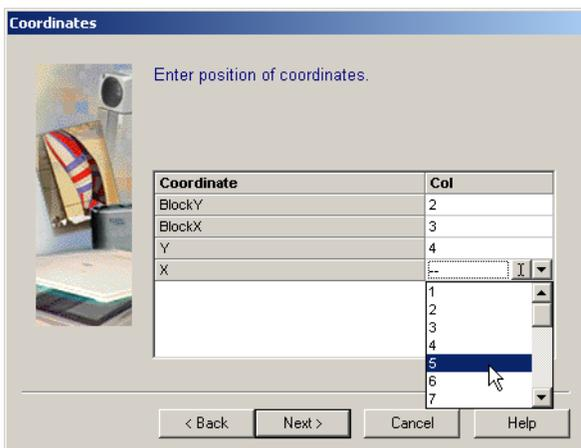

Figure 16. Designate column coordinates in the Coordinates dialog box
8. The Coordinates dialog box opens (Figure 16):